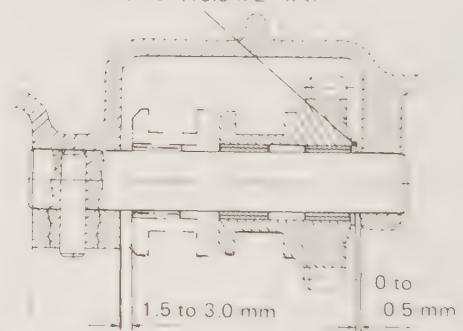

Fig. 6.33. Checking the reverse idler gear to casing wall clearance
- 4 When fitting the reverse shift lever, check that the gap between the reverse idler gear and casing wall is 0.06 - 0.118 in (1.5 - 3.0 mm). Adjustments is by selection of one of three different reverse shift levers supplied. After fitting the reverse shift lever, set it to the neutral position and fit a suitable washer out of fine thicknesses so that the gap between the washer and the case walling is 0 - 0.02 in (0 - 0.5 mm) refer to Fig. 6.33.